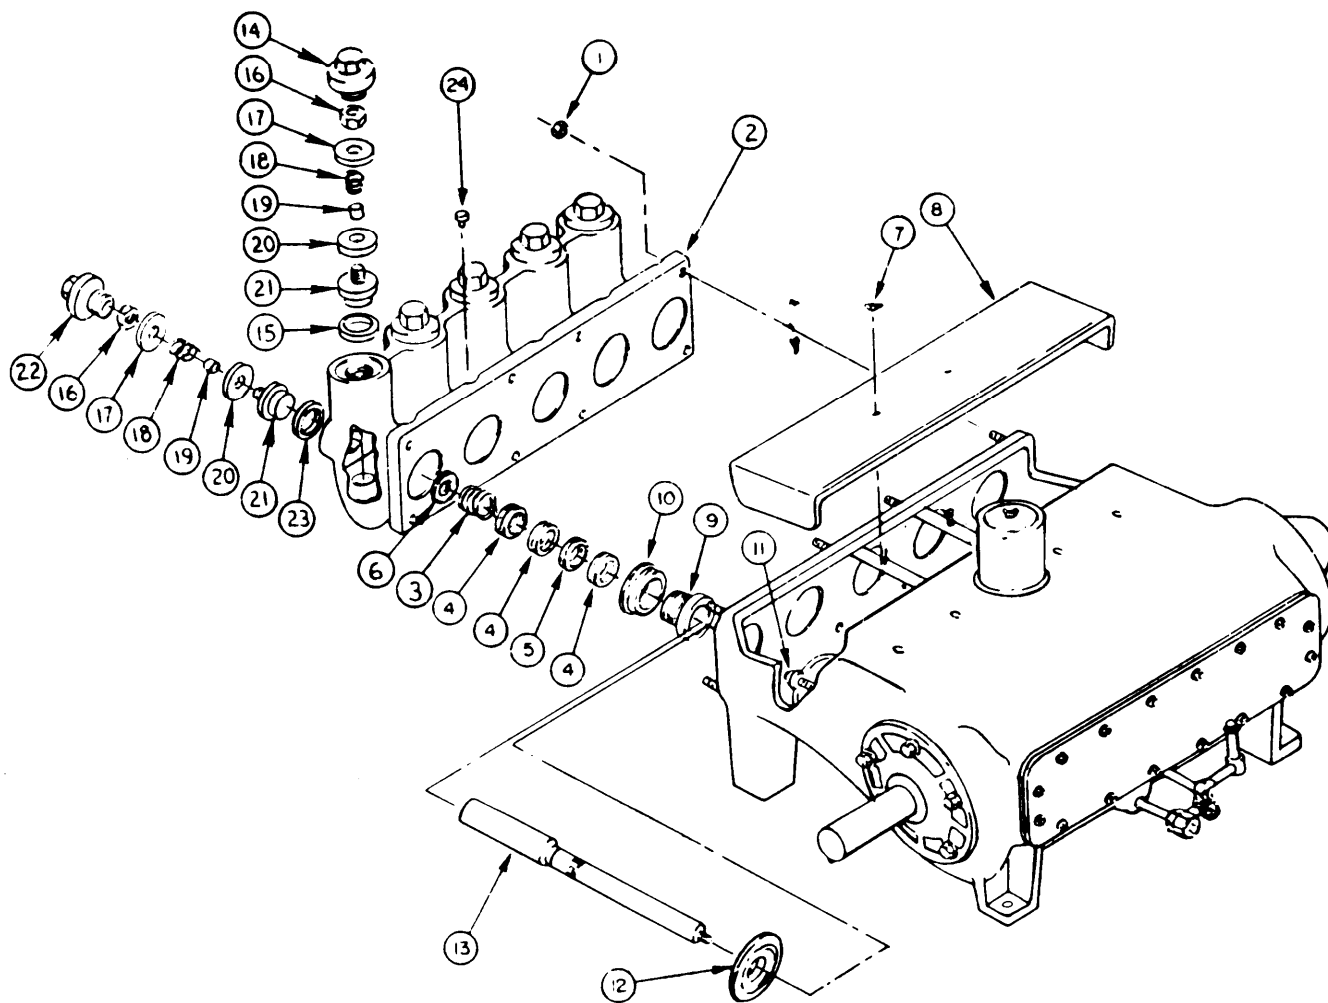

Figure 3-7. R.O. Pump Suction/Discharge Assembly
3-12. R.O. PUMP SUCTION/DISCHARGE ASSEMBLY. (Figure 3-7)
(8) Remove one packing ring (4), lantern ring (5), two more packing rings (4), spring (3), and one throat bushing (6) from each cylinder bore on suction/discharge assembly. Discard packing rings (4).
c. Disassembly for Repair. (Figure 3-7)
(1) Remove five valve covers (14) and five valve cover gaskets (15) from suction/discharge assembly (2). Discard valve cover gaskets (15).
(2) Remove five nuts (16), five retainers (17), five springs (18) five sleeves (19), and five discs (20) from five seats (21).
(3) With the valve seat puller, remove five valve seats (21) from suction/discharge assembly (2).
(4) Remove five cylinder heads (22) and five cylinder head gaskets (23) from suction/discharge assembly (2). Discard cylinder head gaskets (23).
(5) Repeat Steps (2) and (3) to remove five suction valve assemblies. Parts can be removed from the suction/discharge assembly (2) through the cylinder head opening.
(6) Remove five plugs (24) from suction/discharge assembly (2).
- (1) Replace damaged nuts, bolts, screws, washers, and wingnuts.
- (2) Replace damaged valve covers and cylinder heads.
- (3) Replace all packing rings, gaskets, O-rings, and rubber baffle discs.
- (4) Replace damaged or unserviceable lantern rings, throat bushings, barrel cover, power frame adapters, gland nuts, plungers, retainers, springs, valve discs, valve seats, and plugs.
g. Reassembly. (Figure 3-7)
- (1) Clean tapered area of valve seat.
- (2) Place suction valve seat (21) into position in suction/discharge assembly (2). Cover with an old valve disc (20).